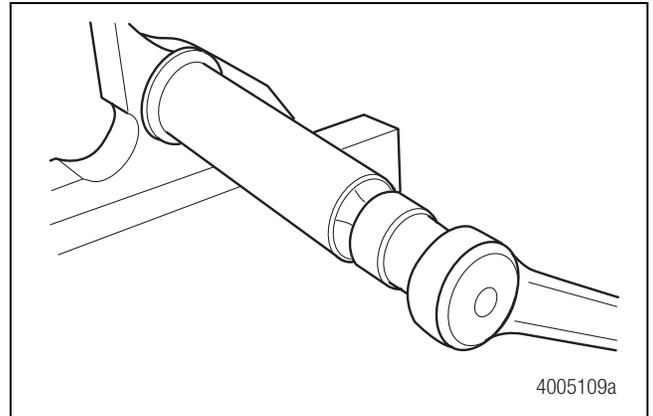

Figure 5.20
1. Before you remove the slide pins, note the locations of the long and short slide pins. Remove the slide pin bolts retaining the slide pins to the carrier. Figure 5.20. If necessary, carefully release the slide pins from their location on the carrier using a rubber or soft metal hammer.